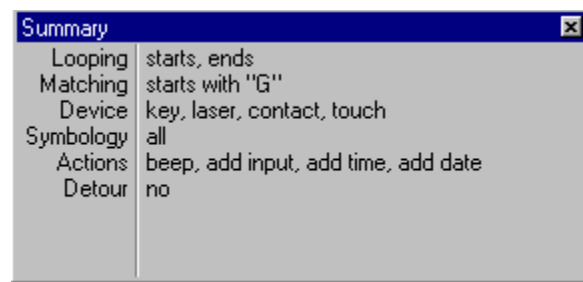

Figure 3-30 Summary Window - “Guard” Handler
26. The **Summary** window for the “Guard” Handler is shown in Figure 3-30.